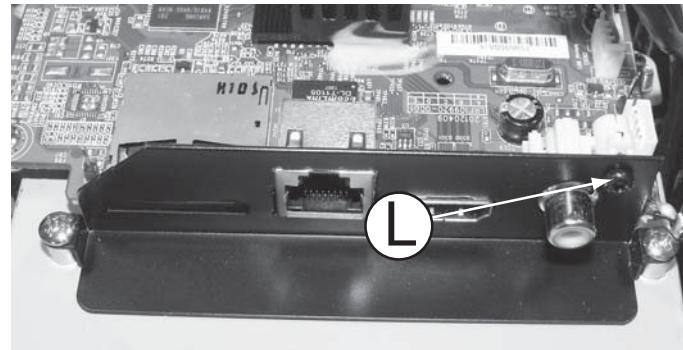

Figure 12
- 1) Loosen 1 screw "L" as shown in figure 12.